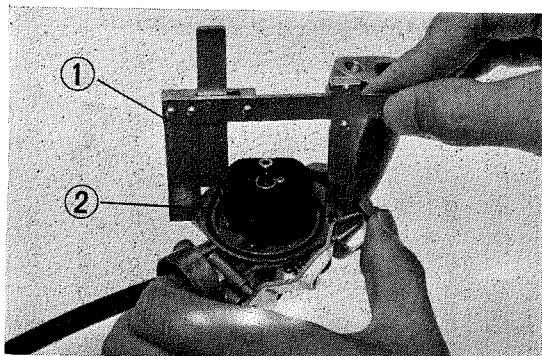

Fig. 8 Float level adjustment
3. In this position, the height of the float arm should be **16.5 mm (0.65 in.)** when measured at the side of the float arm. If adjustment is necessary, carefully bend the float arm. (Fig. 8)